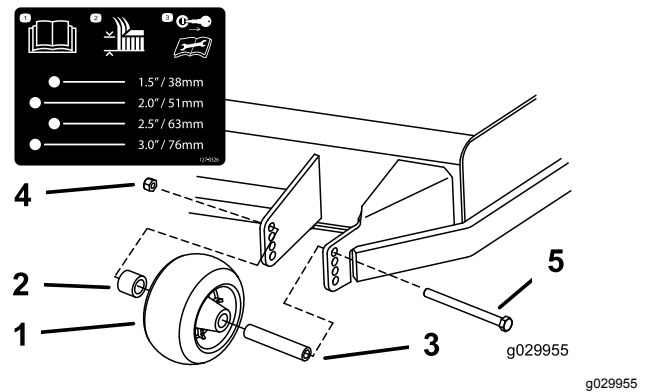
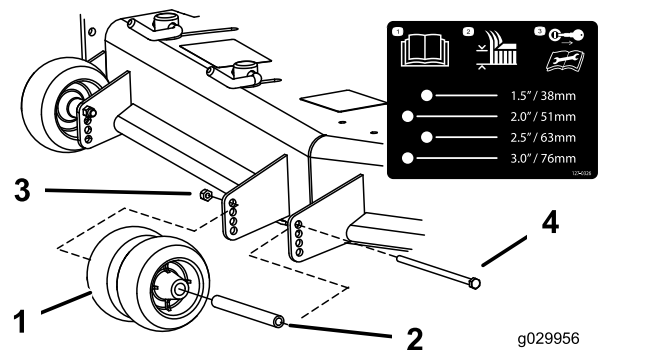

Figure 26
Figure 27
3. Adjust the anti-scalp rollers as shown in Figure 26 and Figure 27.